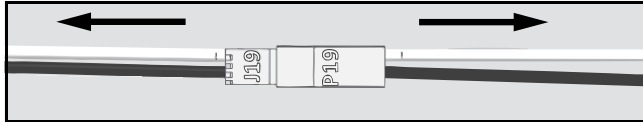

Fig. 41 Disconnect the J19/P19 High-Voltage Wires
2. Disconnect the J19/P19 high-voltage wires that connect the blower motor to the line voltage. (→Refer to Fig. 41.)